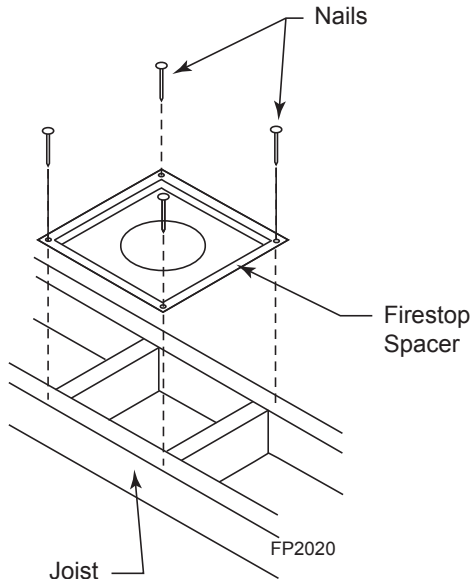
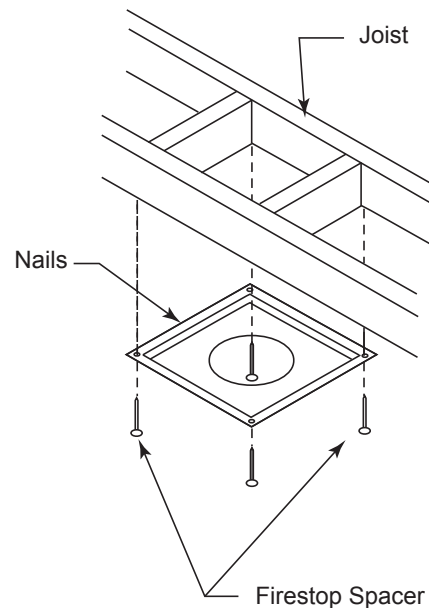

Figure 6 -
Figure 7 -
A ceiling firestop must be installed if the vent passes through a ceiling. Refer to the instructions from the pipe manufacturer. To position firestop refer to *Figures 6 and 7*. Only one (1) firestop required per frame.
5. Frame the hole with framing lumber the same size as the ceiling joists. Position firestop. If attic is above, mount firestop on top of framing. *Figure 6*. If room is above, mount firestop on the bottom of framing. *Figure 7*. Secure with nails or screws.